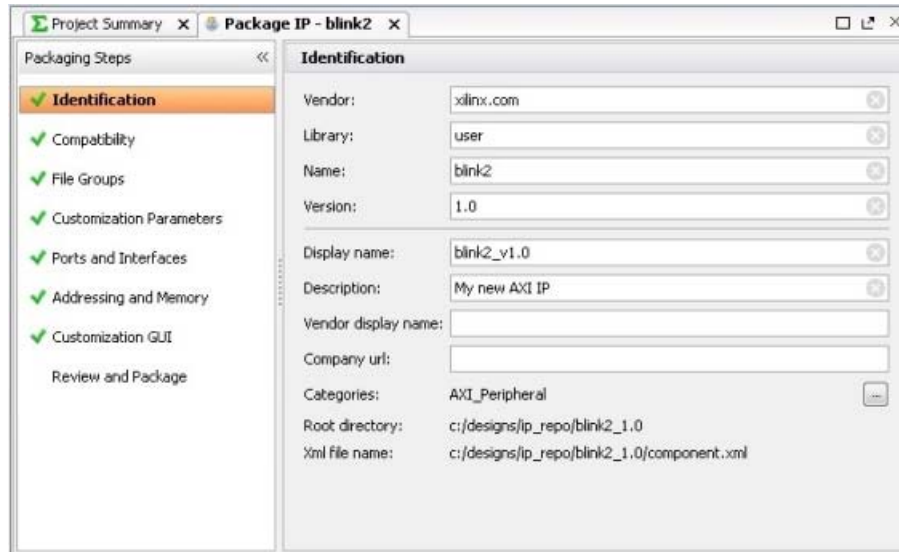

Figure 9-2: Package IP Tab
7. In the Create Peripheral window, select Edit IP and then click Finish. Upon completion of the new IP generation process, the Package IP tab opens (Figure 9-2, page 96).